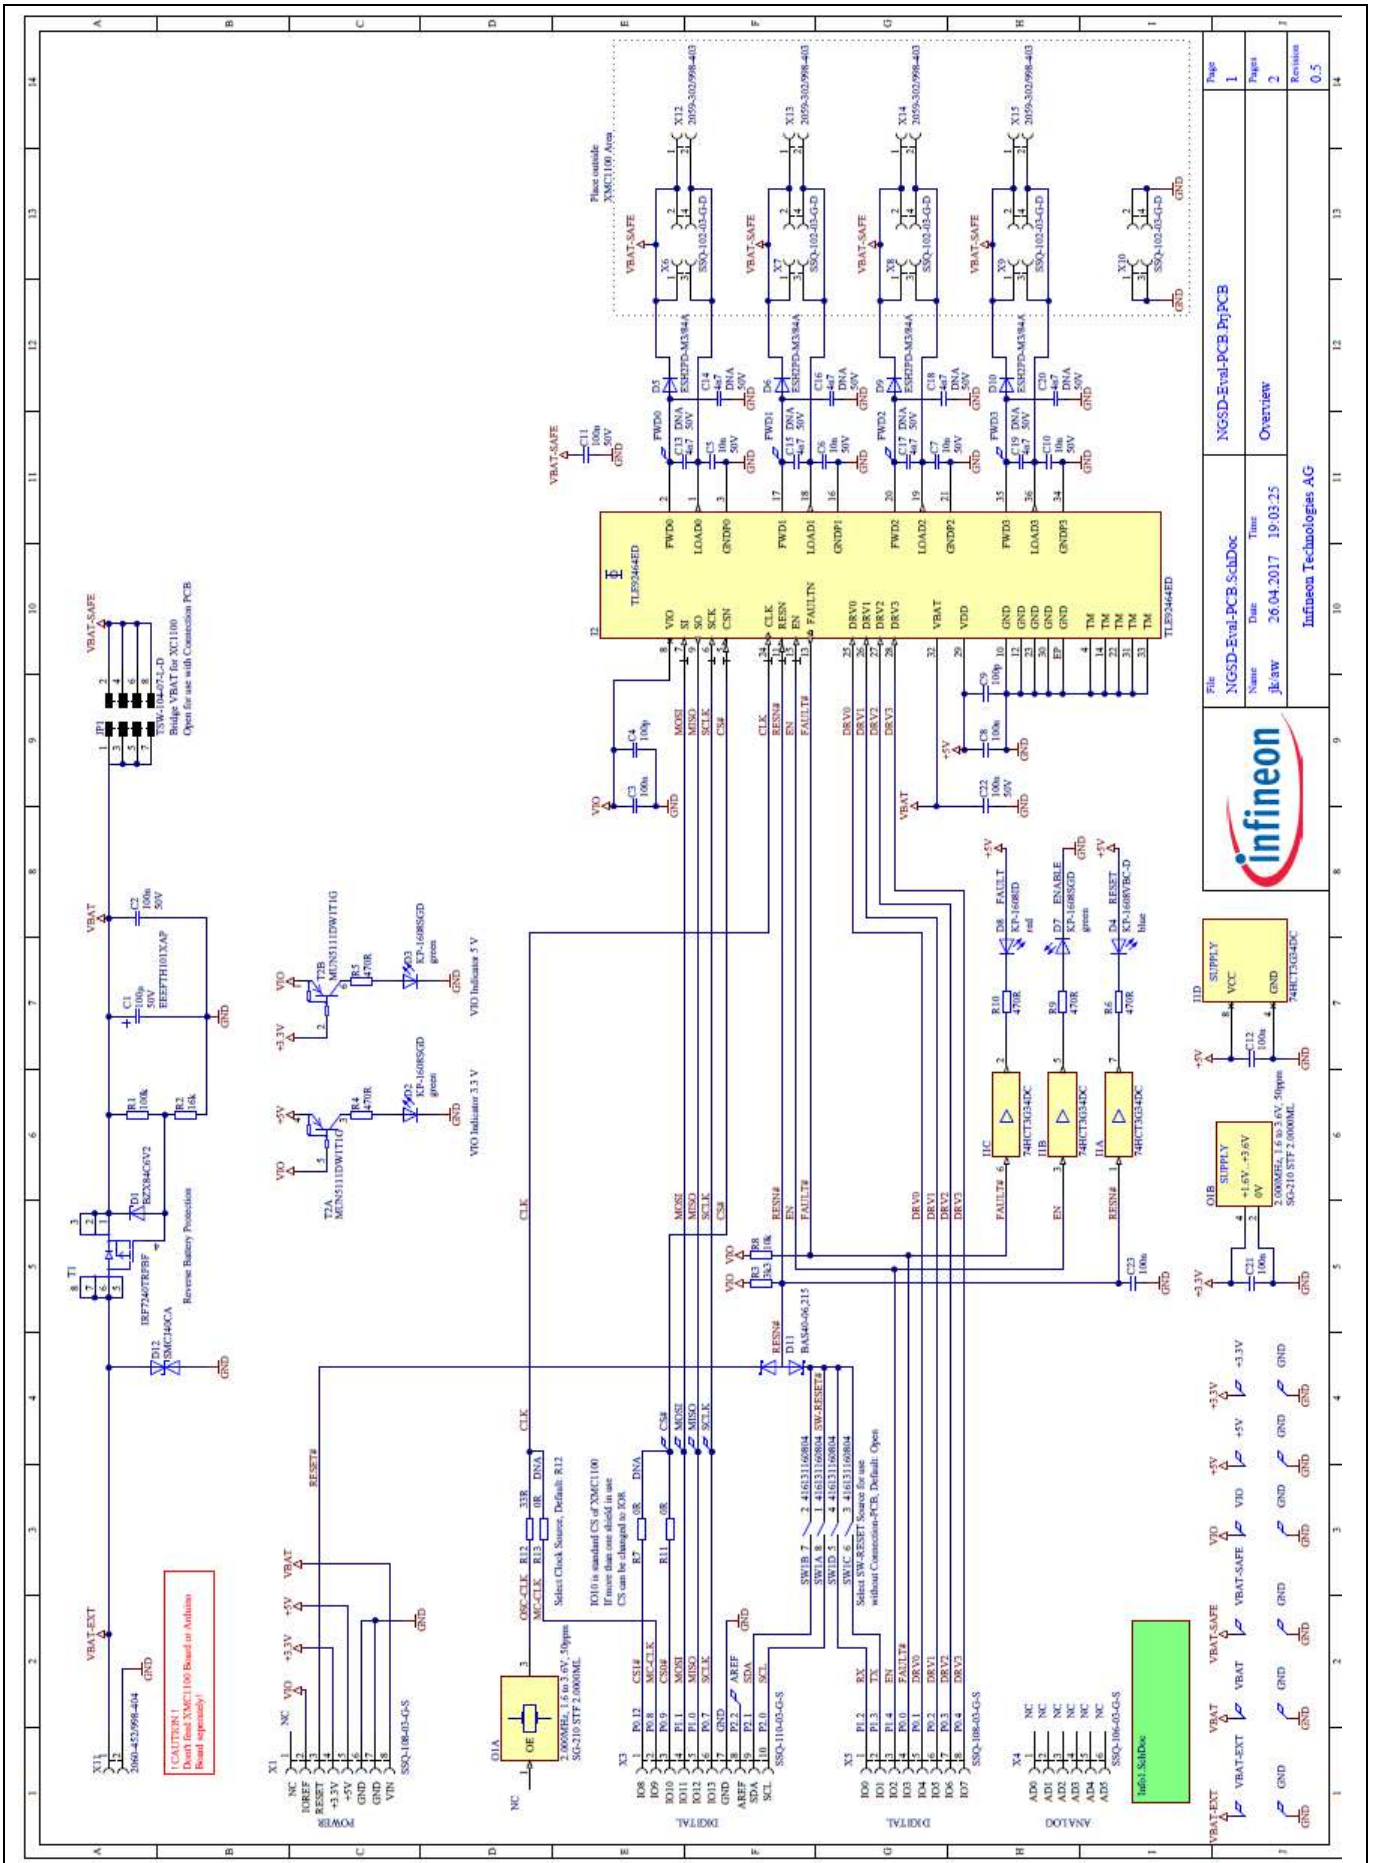

Figure 11 Schematic of the TLE92464ED Evaluation PCB
- For most commands a slot number (slot) has to be entered. Slot 0 selects the Connection PCB. The Eval-PCBs are enumerated according to the slot naming shown in figure 11 (Slot A: (1) to Slot C: (3)). The XMC1100 has a single slot (1) only.